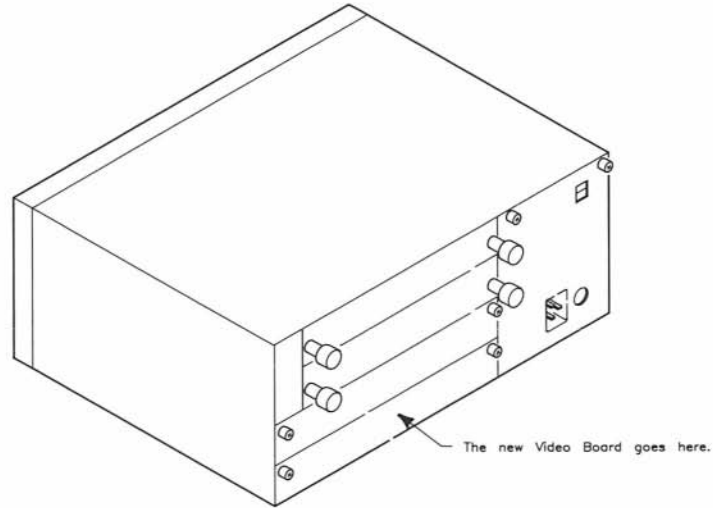

Figure 5-22. Video Board Placement
- b. Remove the existing video board or empty slot cover plate from the bottom wide slot on the back of the computer (see Figure 5-22). You may need a Pozidriv screwdriver to loosen it.